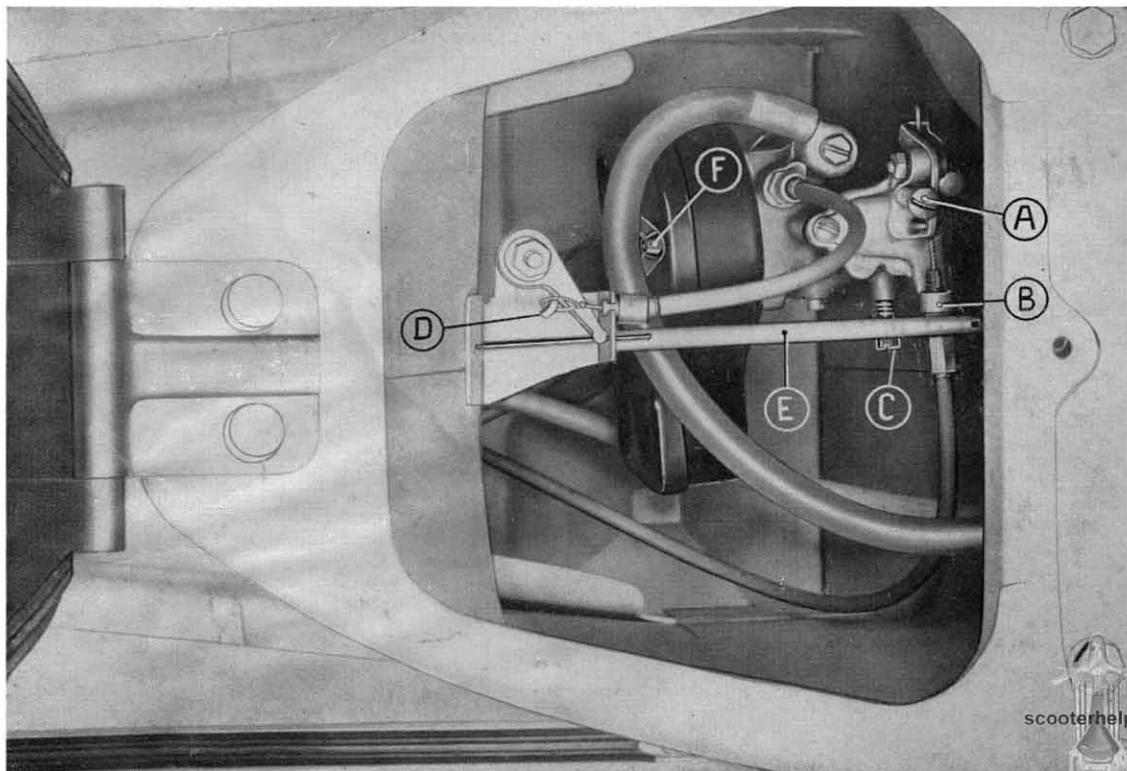

Fig. 12 - To approach the carburetor and air cleaner assy. (For details indicated on the figure, see pag. 16 - 18).
- On the carburettor body a set screw (« B » fig. 12) is provided for adjusting the throttle cable play; this screw is to be reset **only if necessary** or on dismantling and reassembly operations.
- On the air cleaner case, there is a spring loaded screw for adjusting the volume of mixture from idling jet (fig. 9, n. 3 and fig. 12, « C »).
<p>DISMANTLING AIR FILTER</p>	<p>— For dismantling the air filter, pivot the seat forwards (fig. 5), remove the tool box and the choke control cable (the cable end ring can be seen on Fig. 12, « D » then dismount the fuel tap rod (see Fig. 12 « E ») ; next unscrew the two tee head bolts (Fig. 12 « F ») securing the air filter case and extract it.</p>